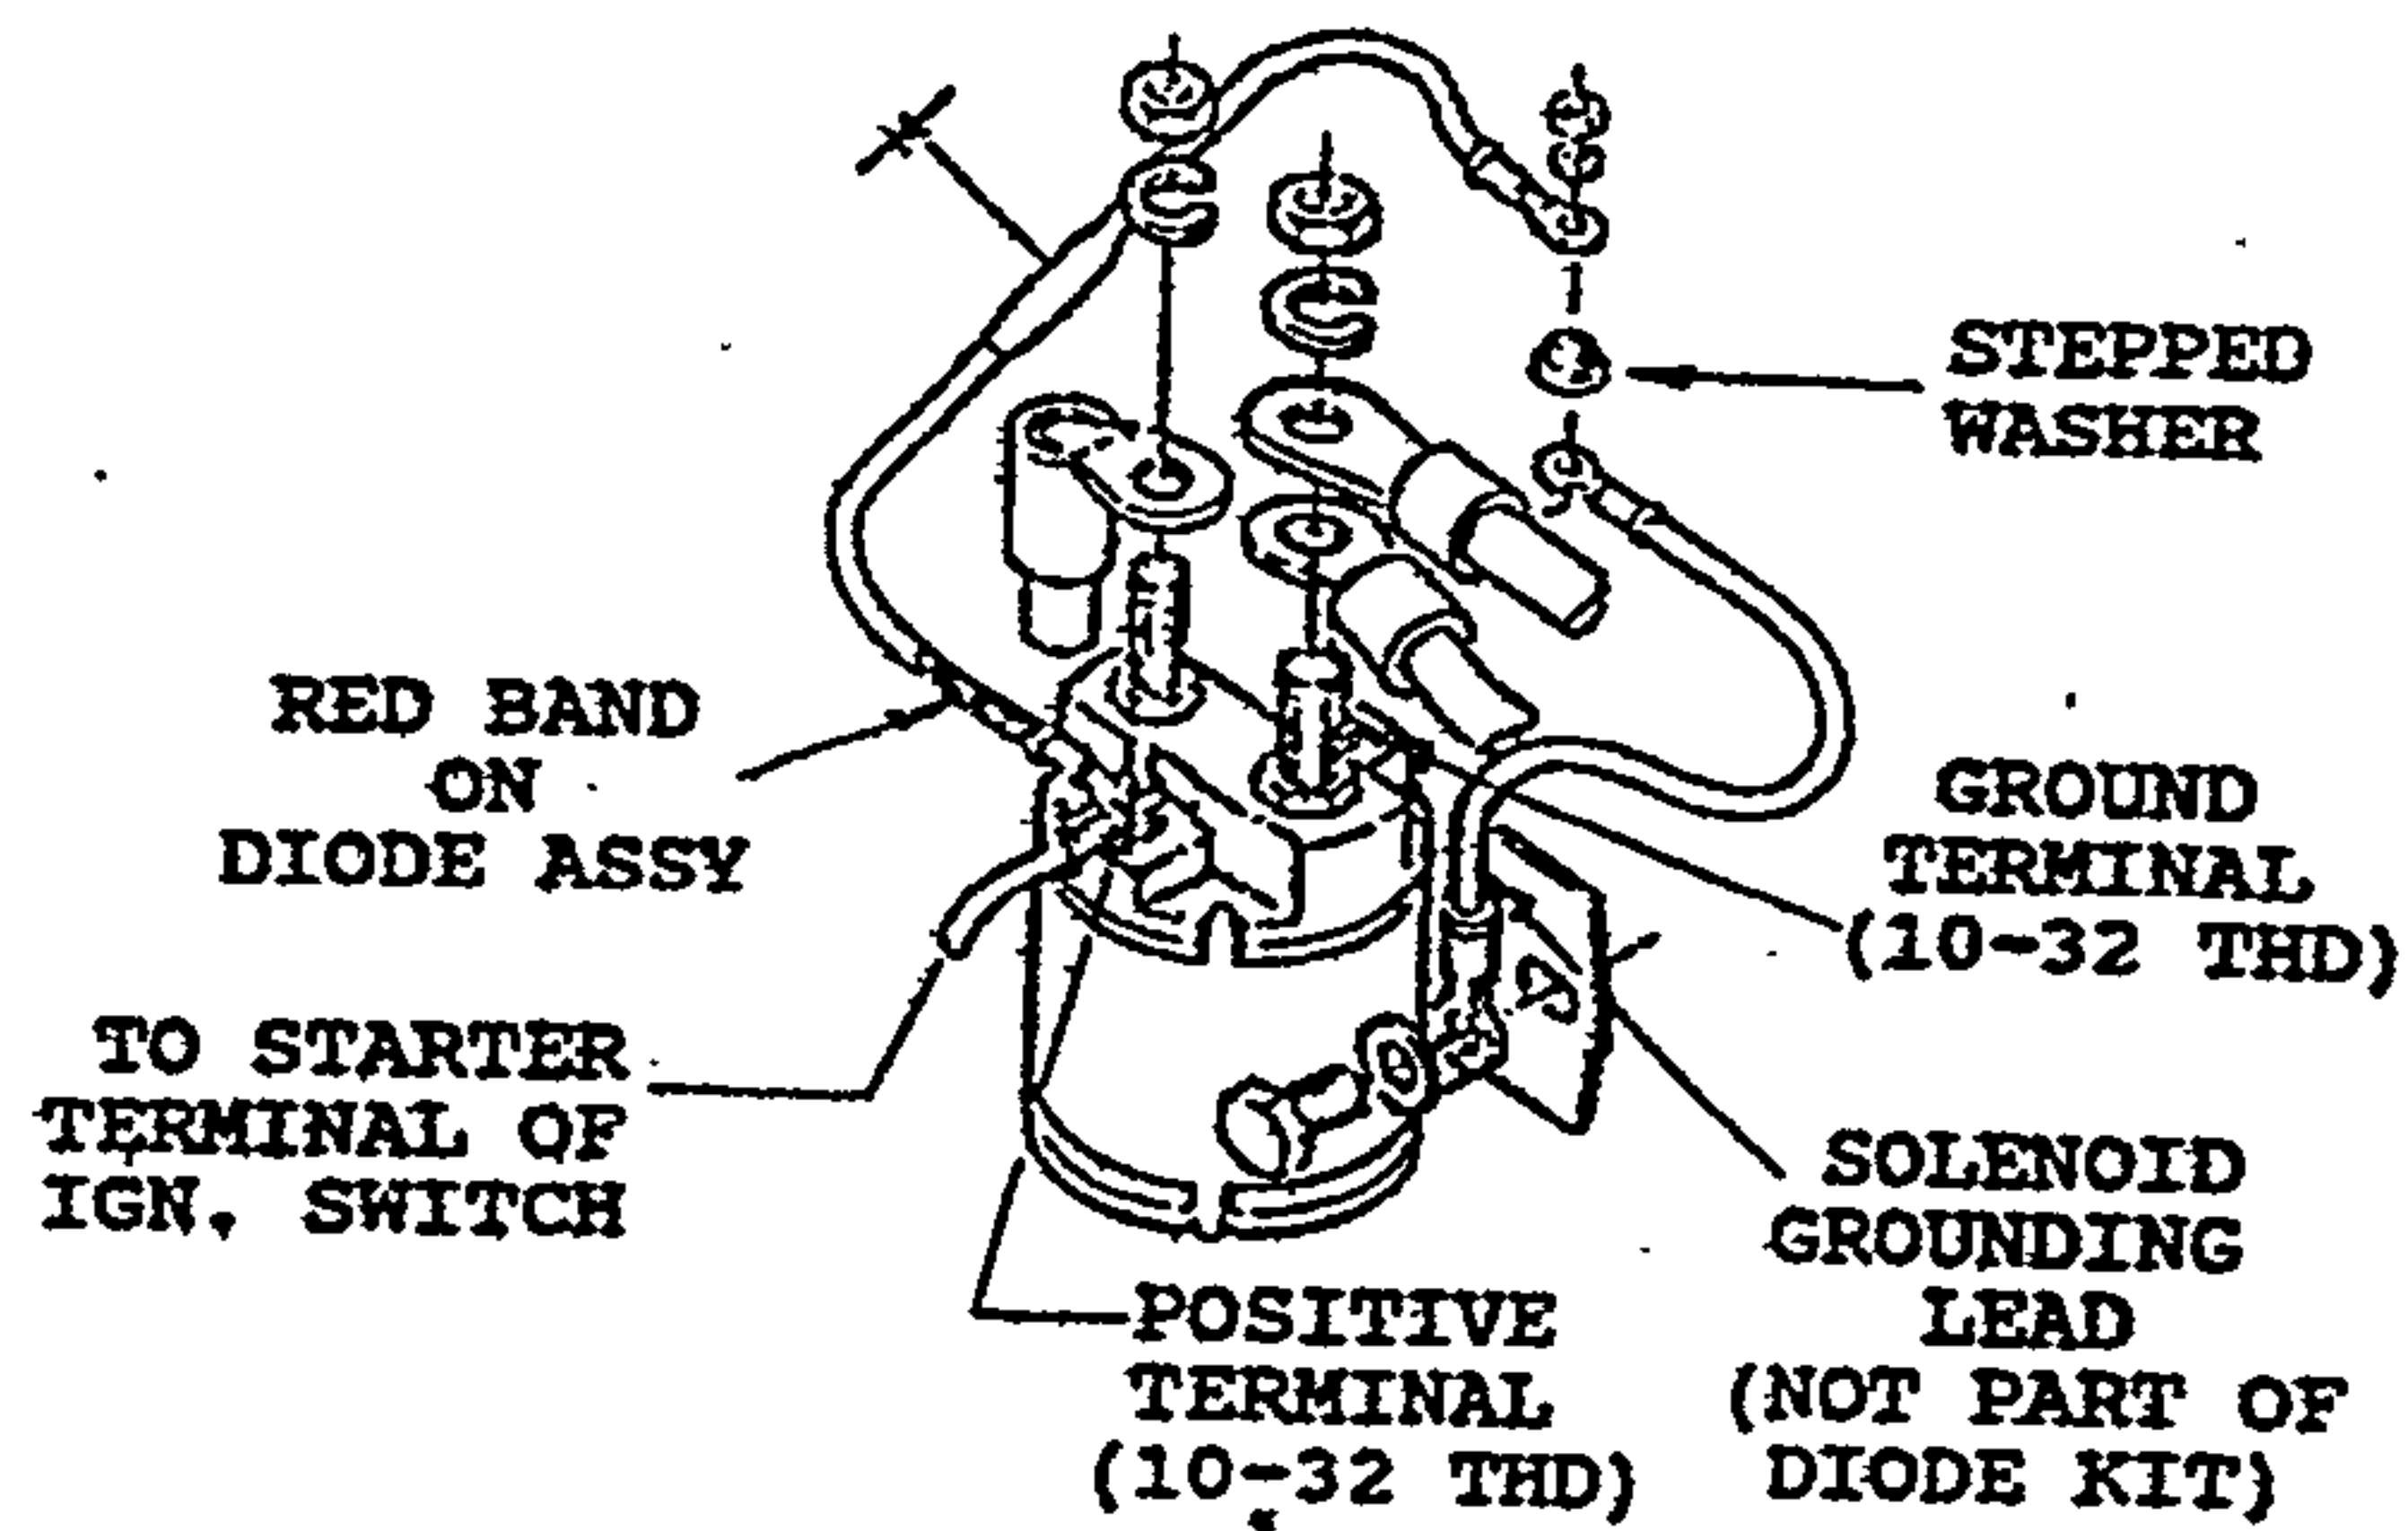

Figure 2. Installation of Diode Assy on Starter Relay with Two Solenoid Terminals
- a. Refer to Figure 2. Remove the nut and washer from the positive (starter switch) terminal on the starter relay.